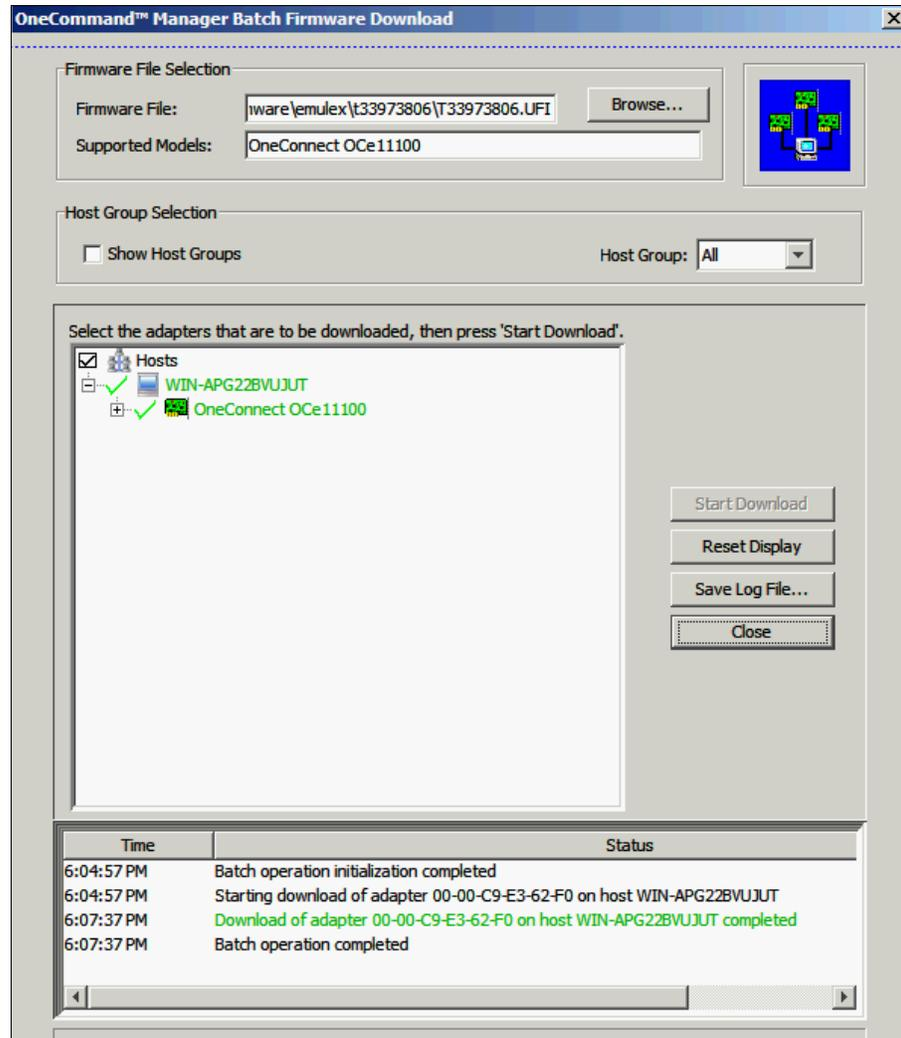

Figure 10-73 OneCommand Manager Batch Firmware Download window
- Again in the OneCommand Manager Batch Firmware Download window (Figure 10-73), click **Close**.